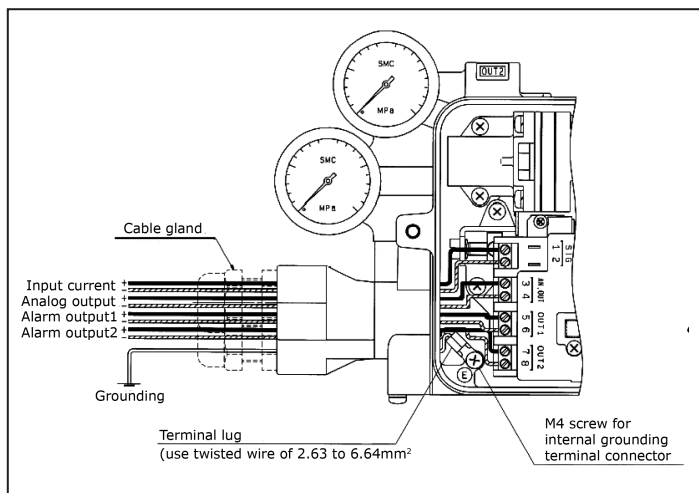

Fig. 8
- Connect the input current wiring from an adjusting meter (controller) and connect each output wiring following Fig. 8. The input port of the electrical connection is equipped with a (blue) cable connector M20x1.5.